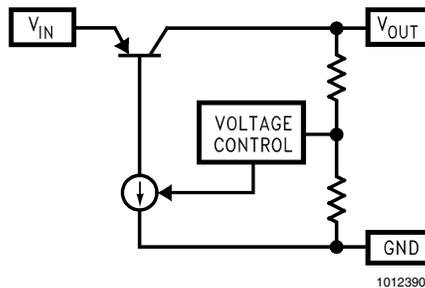
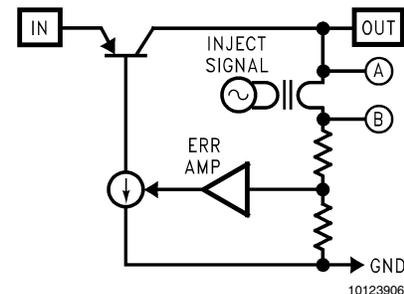

FIGURE 2. PNP LDO REGULATOR
FIGURE 6. LOOP GAIN EXAMPLE
In the low-dropout (LDO) regulator, the pass transistor is a single PNP transistor (*Figure 2*). The big advantage of the LDO is that the PNP pass transistor can maintain output regulation with very little voltage drop across it:
Every closed-loop system has a characteristic called **loop gain**. In this analysis of voltage regulators, loop gain will be defined as the magnitude of the voltage gain that the feedback signal experiences as it travels through the loop. The block diagram of the LDO in *Figure 2* will be redrawn to illustrate this concept (*Figure 6*).
**Feedback** is used in all voltage regulators to hold the output voltage constant. The output voltage is sampled through a resistive divider (*Figure 6*), and that signal is fed back to one
The PNP transistor in an LDO regulator (*Figure 2*) is connected in a configuration called **common emitter**, which has a higher output impedance than the common collector configuration in the NPN regulator. This adds an additional low-frequency pole **whose frequency is dependent both on load resistance and output capacitance**. The frequency of this pole (which will be designated  $P_L$  for load pole) is found from: